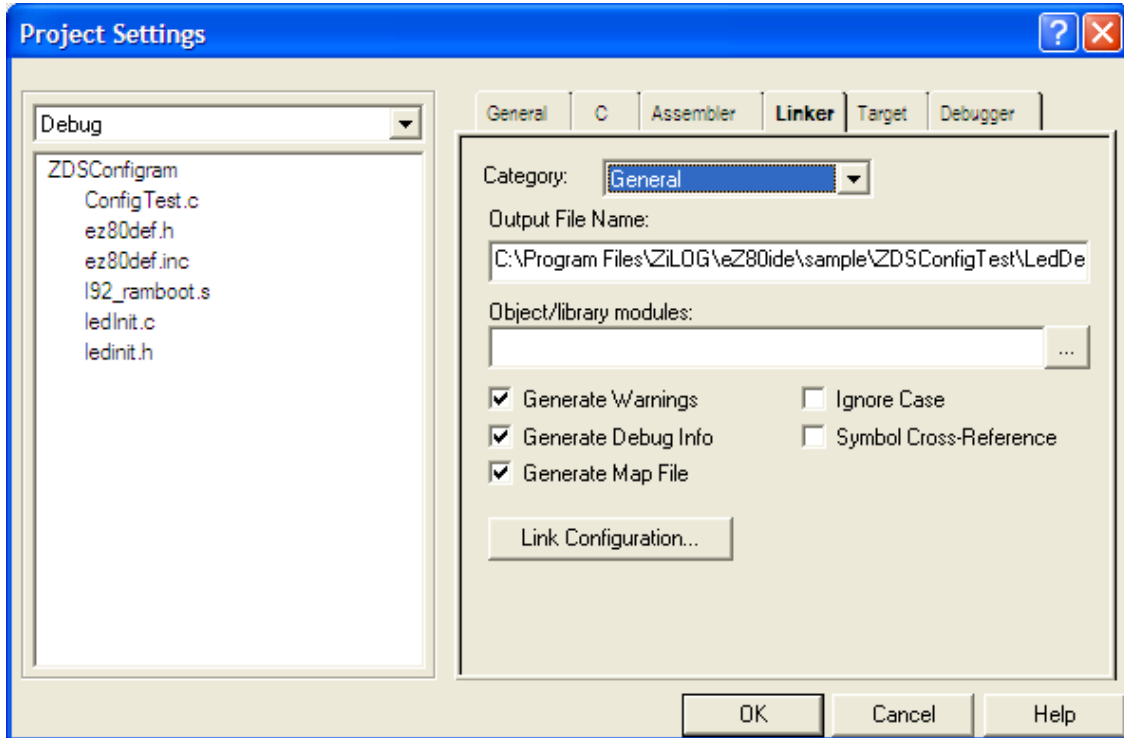

Figure 2. The Project Settings Dialog Box—Linker Tab, General
- b. **General Category**—please see Figure 2.